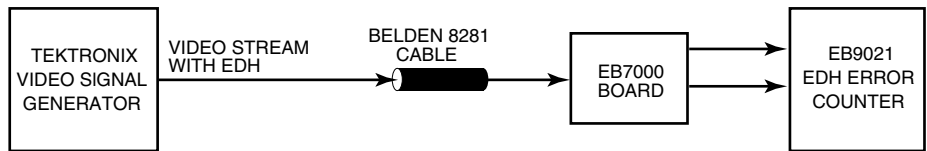

Fig. 1b Test Setup for Error-Free Cable Length
5. Evaluated using test setup Figure 1b.